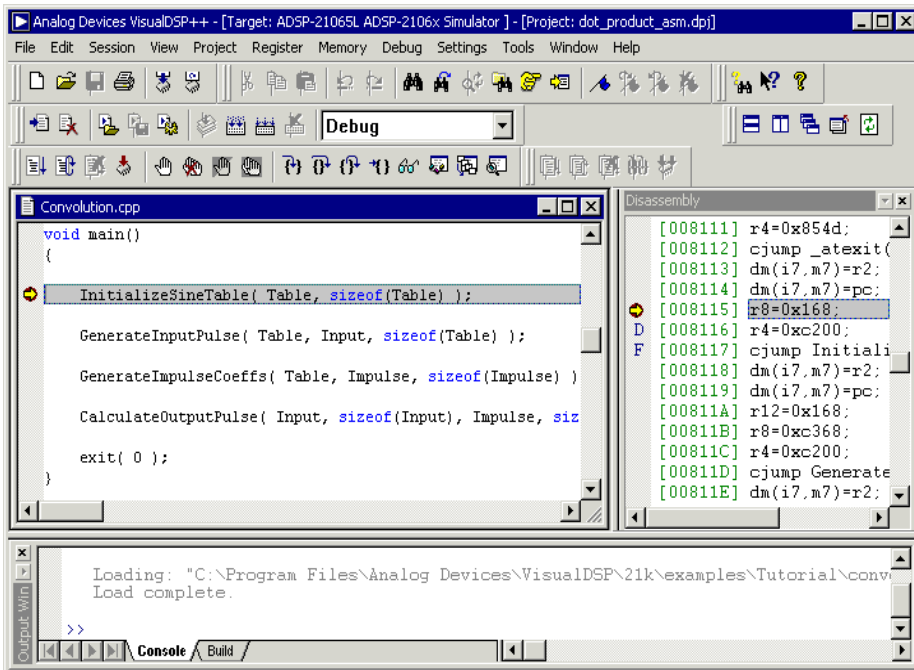

Figure 3-24. Loading the Convolution Program
- e. Double-click `Convolution.cpp` to display the file in an Editor window, as shown in Figure 3-24.